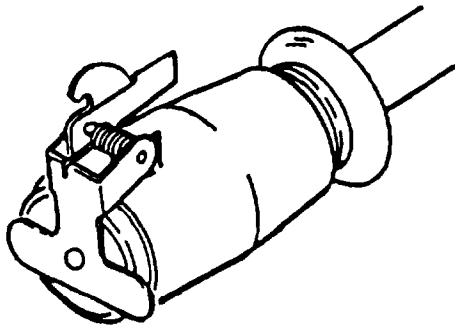

Figure 2-1. Trailer Electrical Plug.
- a. Electrical Connector. The only indicators on the flatbed cargo trailer are the stop lights, tail lights, and the blackout light assembly: 'These lights are powered and controlled from the towing vehicle. The plug on the trailer electrical cable (figure 2-1) makes the electrical system operational.